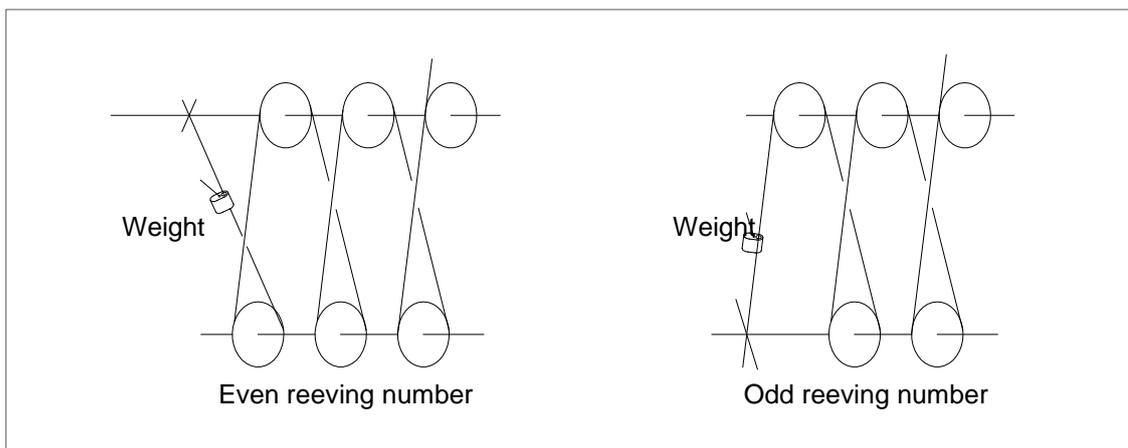

Figure 04 – 43
- (1) Position of the hoisting limit switch weight, please see Figure 04 – 43.